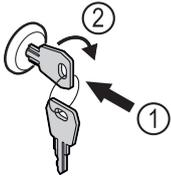

Fig. 45
- ▶ Insert key Fig. 45 (1).
- ▶ Turn key clockwise by 90° Fig. 45 (2).